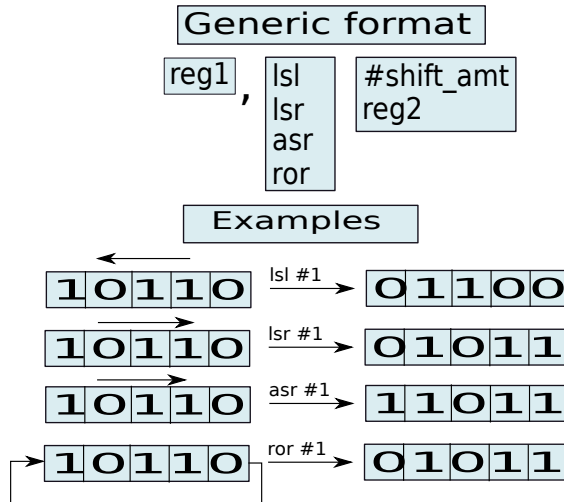

Figure 4.1: Format of shifter operands
Up till now, we have been slightly quiet about `<operand 2>`. It can be a register operand, an immediate, or a special class of operands called – *shifter operands*. The first two classes are intuitive. Let us describe shifter operands in this section. Their generic format is shown in Figure 4.1.
A logical left shift operation is shown in Figure 4.1. In this example, we are shifting the value 10110 one place to the left. We need to shift in an extra 0 at the LSB position. The final result is equal to 01100. A left shift operation is present in most programming languages including C and Java. It is denoted by the following symbol: \ll . Note that shifting a word (4 byte number) by k positions to the left is equivalent to multiplying it by 2^k . This is in fact a quick way of multiplying a number by a power of 2.
Let us now consider the right shift operation. Unlike the left shift operation, this operation comes in two variants. Let us first consider the case of unsigned numbers. Here, we treat a word as a sequence of 32 bits. In this case, if we shift the bits 1 position to the right, we fill the MSB with a 0. This operation is known as – logical shift right (see Figure 4.1). Note that shifting a number right by k places is usually the same as dividing it by 2^k . The right shift operation in C or Java is \gg .
The right rotate operation performs a right shift on the number. However, it fills the MSB with the number shifted out from the rightmost end. In Figure 4.1, if we right rotate 10110, we get 01011. In this case we have moved the previous LSB (0) to the new MSB. Note that *ror* (right rotate) by 32 positions gives us the original value. ARM provides a special connotation for *ror #0*. It performs a right shift. It moves the value of the carry flag to the MSB, and then sets the shifted out LSB to the carry flag. This is also referred to as the *rrx* operation. This operation does not take any arguments.